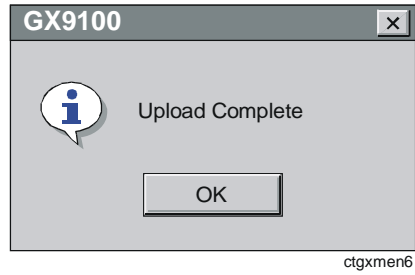

Figure 16-7: Upload Complete Dialog Box
5. Click OK. When the upload operation is complete, a GX9100 dialog box appears (Figure 16-7).